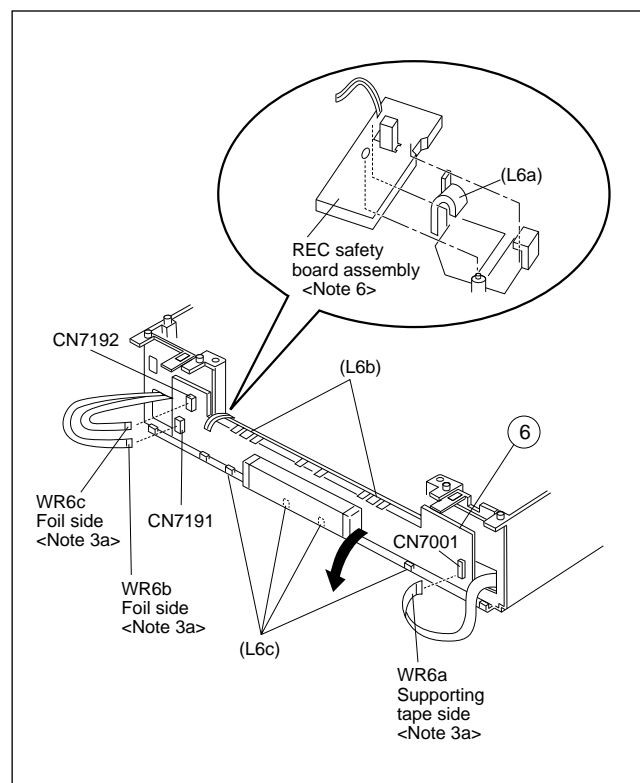

Fig. D6
- (7) Remove the SW/Display board assembly and REC safety board assembly. (Refer to page 1-3 of 1.3 DISASSEMBLY/ASSEMBLY METHOD. Take care not to pull the flat wires (Fig. D6) from CN7001, CN7191 and CN7192.)